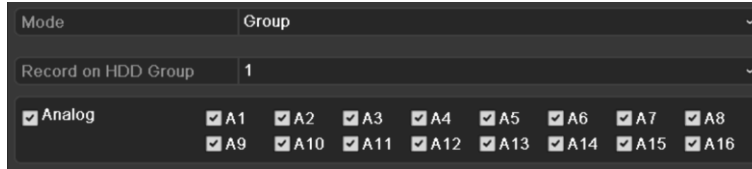

Figure 12-11 Storage Mode Interface
Step 2 Set the **Mode** to Group, as shown in Figure 12-11.